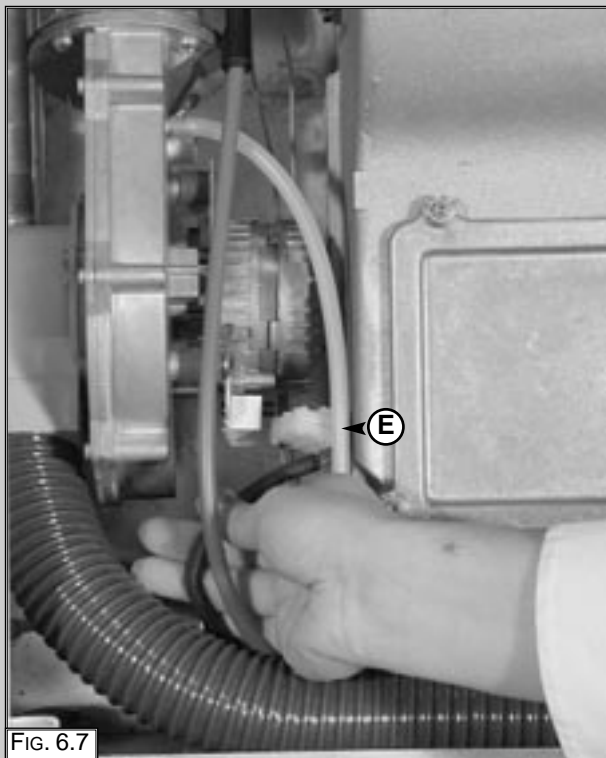

FIG. 6.7
1. Disconnect the electrical connector "E" (FIG. 6.7);